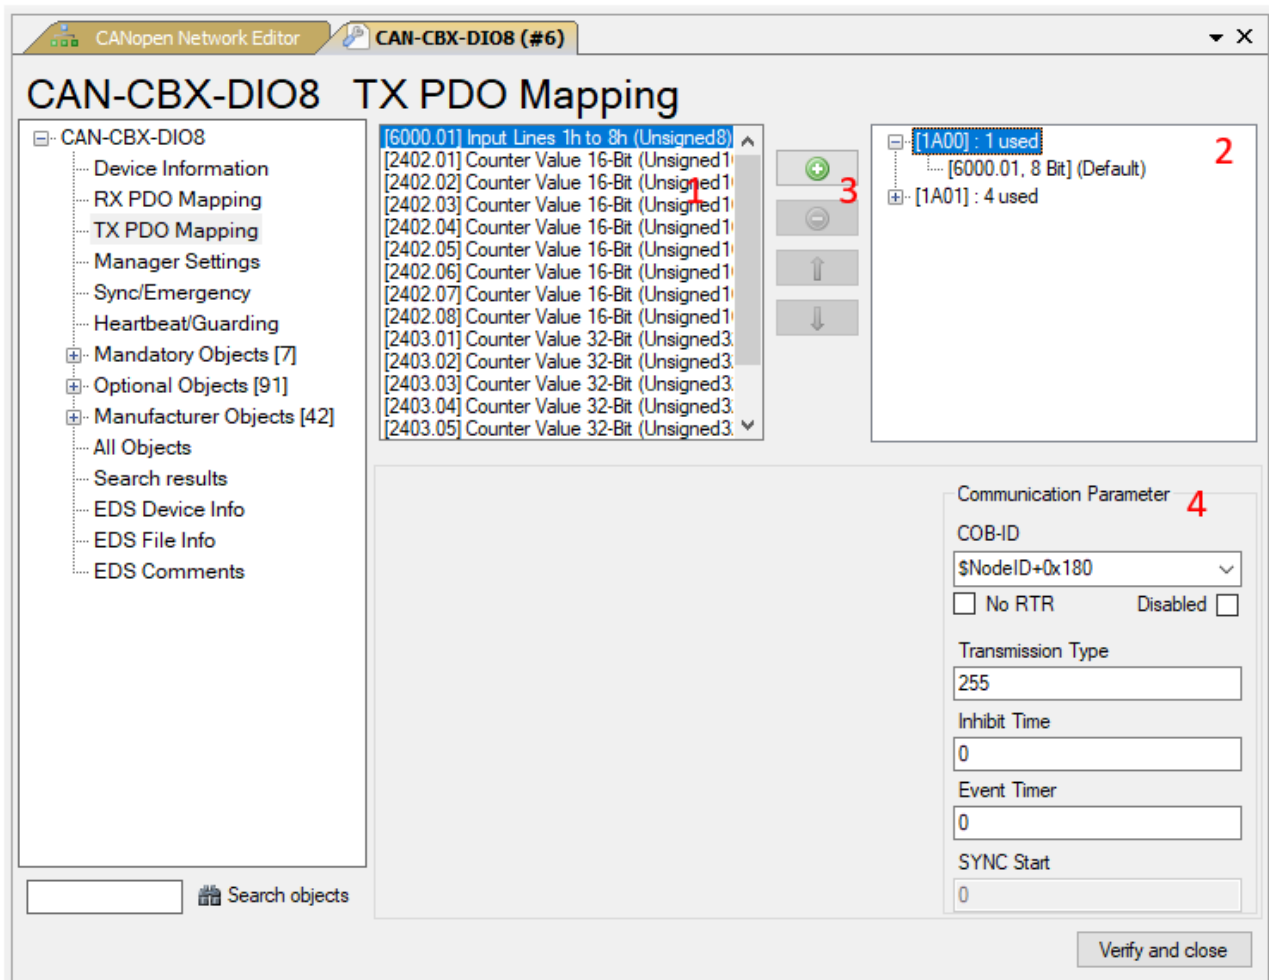

Figure 27: GSDML Composer TPDO Mapping
The window consists of the following sections (see Figure 27):
| Object Selection (see Figure 27, 1) | This list shows all objects that can be mapped in a PDO. It is defined in the EDS file by [PDOMapping] and [AccessType] of the CANopen object. | | | | | | | | | | | | | | | | | | | | | | | | | | | | | | |
| PDO Selection (see Figure 27, 2) | In this list all PDOs and their contents are shown. The example in Figure 27 shows the PDO 0x1A00 containing the mapped object “[6000.01, 8 Bit] (Default)”: The mapped object is at index 0x6200, sub-index 0x01 with 8-bit data width. Default indicates that this value complies with the EDS DefaultValue for the PDO object. | | | | | | | | | | | | | | | | | | | | | | | | | | | | | | |
| Communication Parameter (see Figure 27, 4) | In this section the COB-ID and the transmission type of the PDO can be specified. <table border="1"> <thead> <tr> <th>Parameter</th> <th>Description</th> </tr> </thead> <tbody> <tr> <td>COB-ID</td> <td>The CAN-ID of the selected PDO. In accordance with CiA 306 (6) in the EDS file $\\$NodeID+$ may be used as prefix. This is allowed here too, and the COB-ID is calculated when exported based of the node ID.</td> </tr> <tr> <td>Transmission Type</td> <td>The following transmission types can be configured: <table border="1"> <tbody> <tr> <td>0x00</td> <td>Acyclic with SYNC</td> </tr> <tr> <td>0x01</td> <td>Cyclic with every SYNC</td> </tr> <tr> <td>0x02 ... 0xF0</td> <td>Cyclic with every SYNC as specified here (2nd up to 240th)</td> </tr> <tr> <td>0xFC</td> <td>On RTR (sampling of the values to SYNC)</td> </tr> <tr> <td>0xFD</td> <td>On RTR (sampling of the values at RTR)</td> </tr> <tr> <td>0xFE</td> <td>Event based (manufacturer-specific)</td> </tr> <tr> <td>0xFF</td> <td>Event based (profile-specific)</td> </tr> <tr> <td>SYNC:</td> <td>Transmission is triggered at reception of a SYNC telegram</td> </tr> <tr> <td>Event based:</td> <td>Transmission is independent of the SYNC telegram</td> </tr> </tbody> </table> </td> </tr> <tr> <td>Inhibit Time</td> <td>Minimum period between two transmissions (As multiple of 100 μs. Only if transmission type is 0xFE/0xFF).</td> </tr> <tr> <td>Event Timer</td> <td>For a value which does not equal zero, this value specifies the cycle time of the transmission in ms (Only if transmission type is 0xFE/0xFF).</td> </tr> <tr> <td>SYNC Start</td> <td>The SYNC message with this counter value will be evaluated as first received SYNC message (0: The counter value will be ignored. Only if transmission type is \leq 0xF0).</td> </tr> </tbody> </table> <p>All other parameters do only apply to RPDOs (see chapter 5.5.12.2).</p> | Parameter | Description | COB-ID | The CAN-ID of the selected PDO. In accordance with CiA 306 (6) in the EDS file $\$NodeID+$ may be used as prefix. This is allowed here too, and the COB-ID is calculated when exported based of the node ID. | Transmission Type | The following transmission types can be configured: <table border="1"> <tbody> <tr> <td>0x00</td> <td>Acyclic with SYNC</td> </tr> <tr> <td>0x01</td> <td>Cyclic with every SYNC</td> </tr> <tr> <td>0x02 ... 0xF0</td> <td>Cyclic with every SYNC as specified here (2nd up to 240th)</td> </tr> <tr> <td>0xFC</td> <td>On RTR (sampling of the values to SYNC)</td> </tr> <tr> <td>0xFD</td> <td>On RTR (sampling of the values at RTR)</td> </tr> <tr> <td>0xFE</td> <td>Event based (manufacturer-specific)</td> </tr> <tr> <td>0xFF</td> <td>Event based (profile-specific)</td> </tr> <tr> <td>SYNC:</td> <td>Transmission is triggered at reception of a SYNC telegram</td> </tr> <tr> <td>Event based:</td> <td>Transmission is independent of the SYNC telegram</td> </tr> </tbody> </table> | 0x00 | Acyclic with SYNC | 0x01 | Cyclic with every SYNC | 0x02 ... 0xF0 | Cyclic with every SYNC as specified here (2 nd up to 240 th) | 0xFC | On RTR (sampling of the values to SYNC) | 0xFD | On RTR (sampling of the values at RTR) | 0xFE | Event based (manufacturer-specific) | 0xFF | Event based (profile-specific) | SYNC: | Transmission is triggered at reception of a SYNC telegram | Event based: | Transmission is independent of the SYNC telegram | Inhibit Time | Minimum period between two transmissions (As multiple of 100 μ s. Only if transmission type is 0xFE/0xFF). | Event Timer | For a value which does not equal zero, this value specifies the cycle time of the transmission in ms (Only if transmission type is 0xFE/0xFF). | SYNC Start | The SYNC message with this counter value will be evaluated as first received SYNC message (0: The counter value will be ignored. Only if transmission type is \leq 0xF0). |